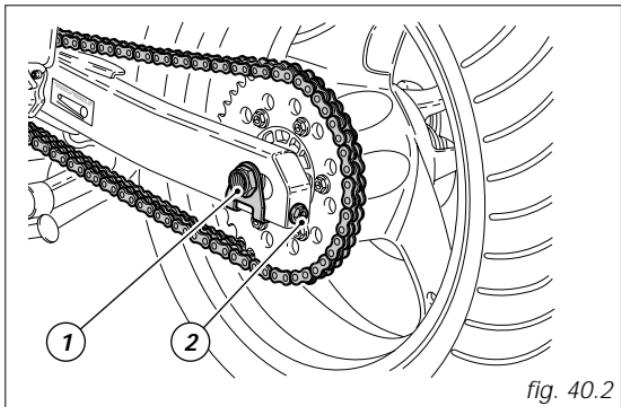

fig. 40.2
E Slacken the nut (1, fig. 40.2) of the wheel spindle, tighten (turn clockwise) or slacken the screw (2) on either side of the swingarm equally to increase or reduce chain tension. If you are slackening the chain, you will have to push the wheel forward.